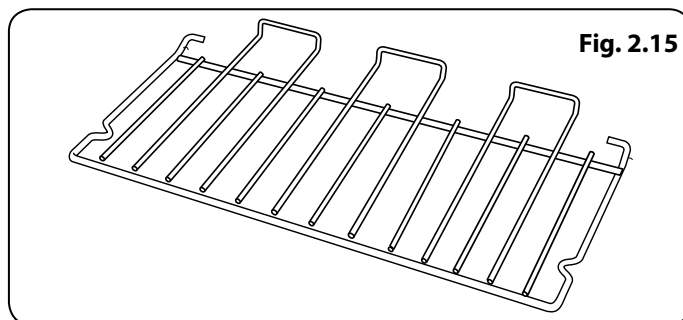

Fig. 2.15
- 1 full width rack (**Fig. 2.15**)